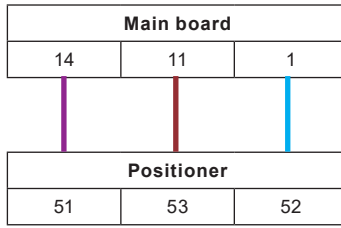

Fig. 25 Positioner Installation Terminal Diagram 1 – 6 kN (225 - 1349 lbf)
- 1 - 6 kN (225 - 1349 lbf): Connect the DE wiring harness (orientation shown in Fig. 24) as indicated in Fig. 25 "Positioner Installation Terminal Diagram (1 - 6 kN (225 - 1349 lbf))"